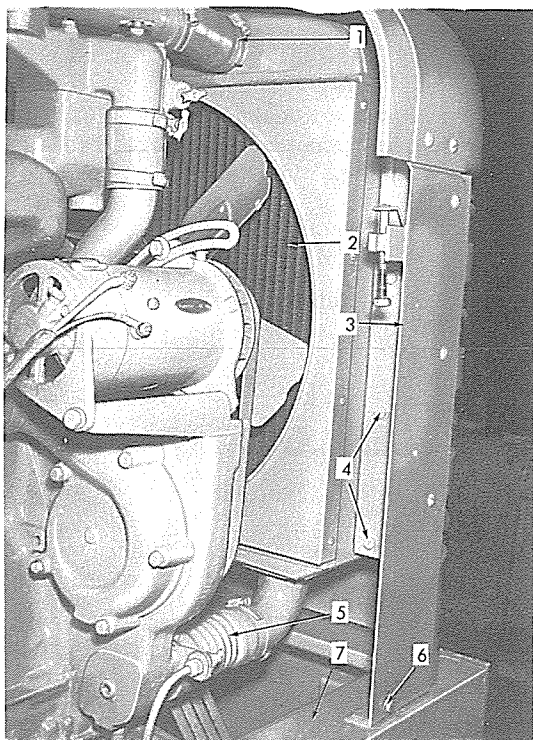

Fig. 2—Typical Radiator Mounting
On motor graders, the radiator is bolted to the radiator grill, Fig. 2, which is bolted to the grader main frame.
2. MOTOR GRADERS (Fig. 2)
- c. Disconnect radiator inlet (1) and outlet (5) hoses.
- d. Remove capscrews (6) attaching radiator grill (3) to grader main frame (7) and remove radiator and radiator grill as an assembly.
- e. Remove capscrews (4) and plain washers attaching radiator (2) to radiator grill (3) and remove radiator.